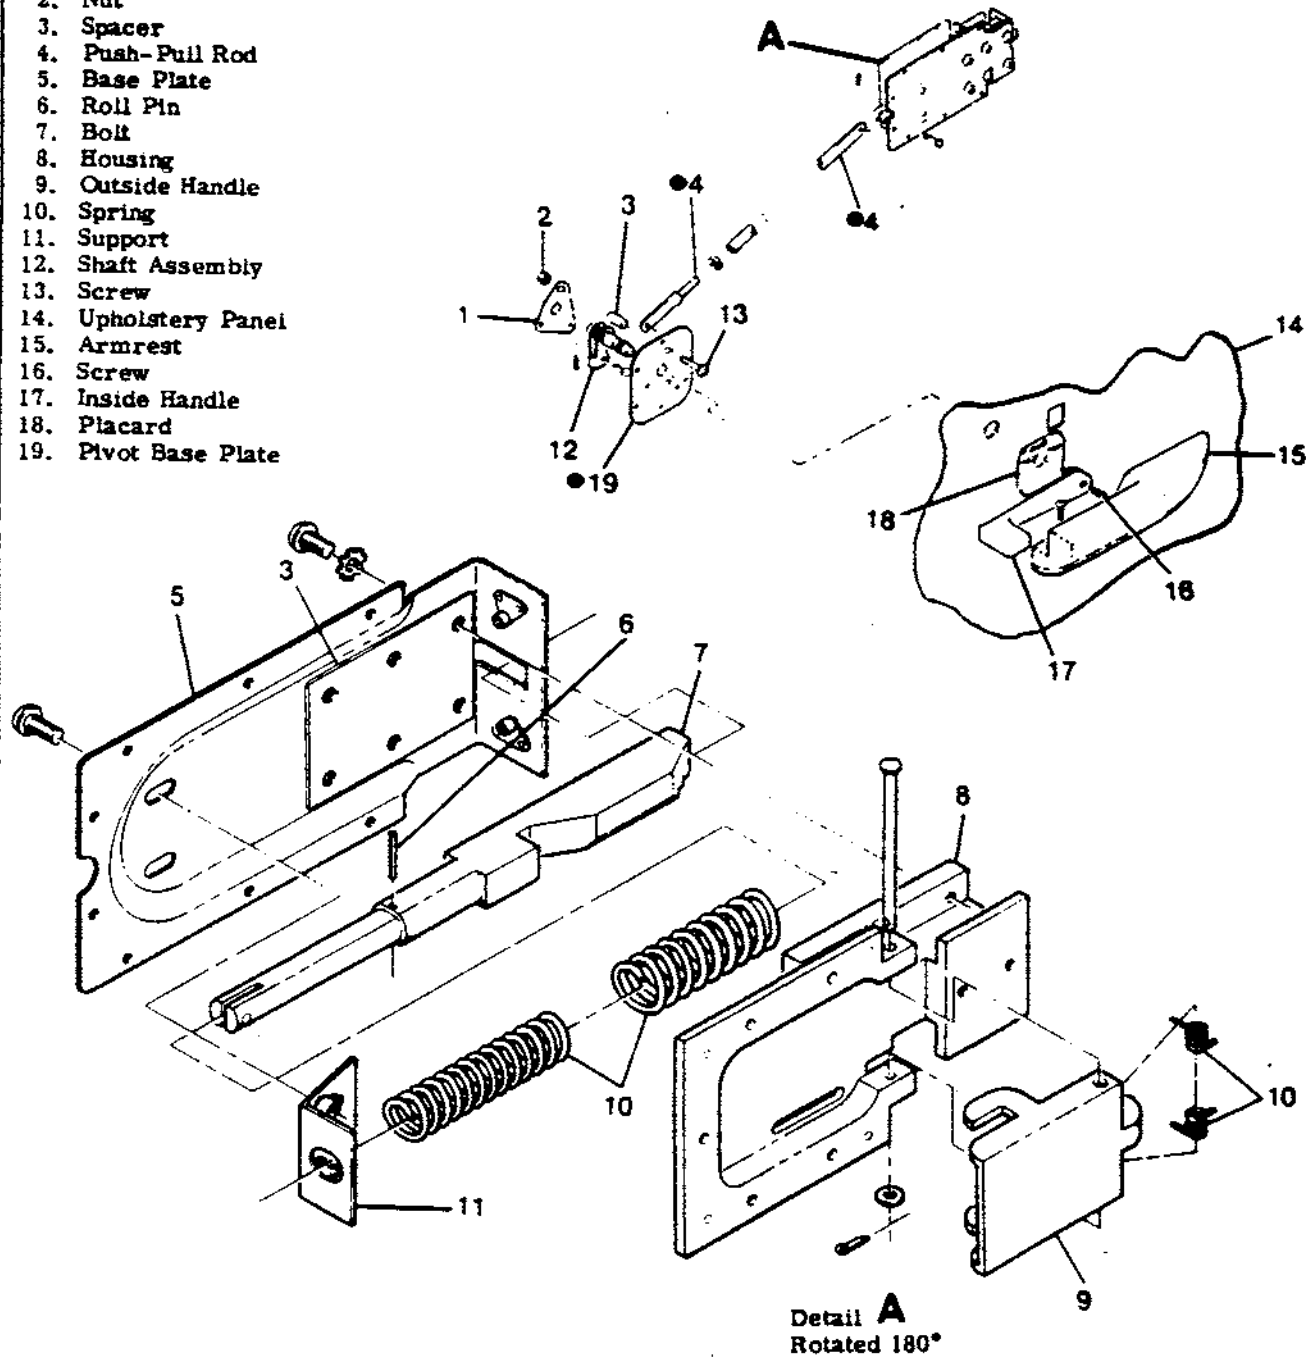

Figure 3-4. Door Latch Installation
3-25. **LATCHES** (Thru 17275034 and F17202134). (See figure 3-4.)
- 3-29. **INDEXING INSIDE DOOR HANDLE.** (See figure 3-4.) When inside door handle is removed, reinstall in relation to position of bolt (7), which is spring-loaded to the CLOSE position. The following procedure may be used.
- Temporarily install handle (17) on shaft assembly (12), approximately vertical.
- Move handle (17) back and forth until handle centers in spring-loaded position.
- Without rotating shaft assembly (12), remove handle (17) and install placard (18) with CLOSE index at top.
- Install handle (17) to align with CLOSE index on placard (18), using screw (16).
- Install arm rest (15) on upholstery panel (14).